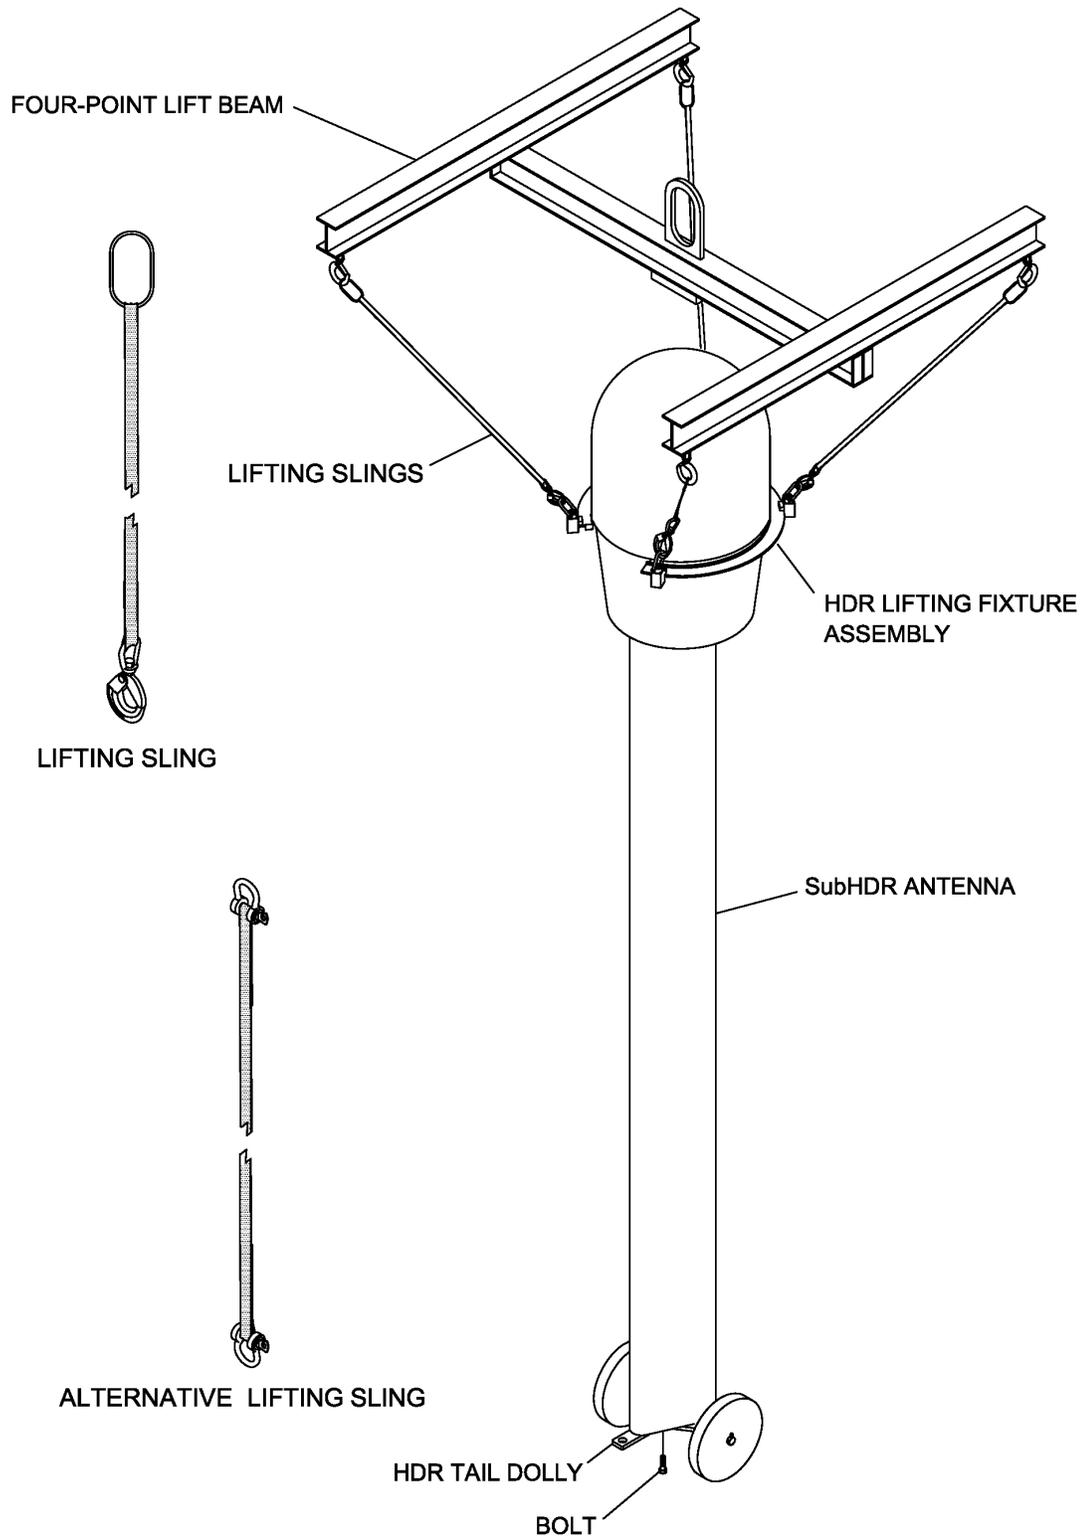

Figure 5-7 SUB HDR and ACM Antenna Lifting Arrangement
- h. Attach a crane hook to the four-point lift beam and have the crane rotate the antenna to the vertical position and then lift the assembly to a height that will allow the removal of the tail dolly from the inner mast base-plate as shown in Figure 5-7.